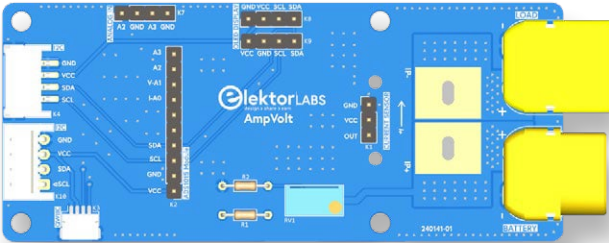

Figure 2: The AmpVolt v2.0B Variant was optimized for compact sensor modules with support for XT60 connectors.
- AmpVolt v2.0B: This variant retains the compact design of AmpVolt v1.0 while allowing direct soldering of the ACS-based compact current modules. It also supports XT60 connectors on the PCB for easy integration. However, for safety, I recommend limiting the current load to 20 A for short durations to avoid overheating and eventually magic smoke (Figure 2).